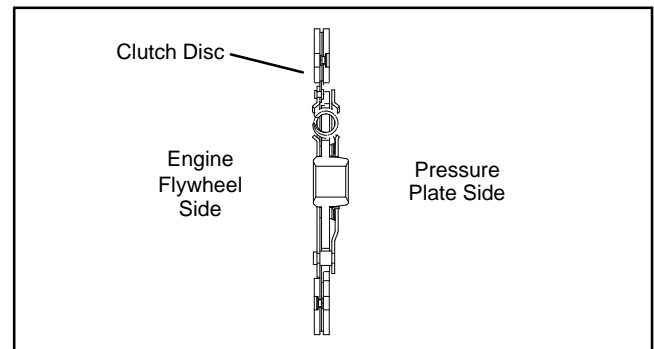

Figure 21
3. Remove cap screws, lock washers and pressure plate, then slide out the alignment tool and remove clutch disk. Note orientation of clutch disk as it is removed (Fig. 21).